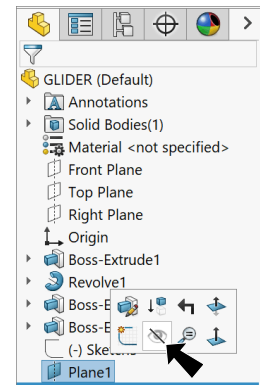

Fig. 40
Step 2. **Hide Plane1** . To hide, click **Plane1**  in the graphics area and **Hide**  on the context toolbar, **Fig. 40**.